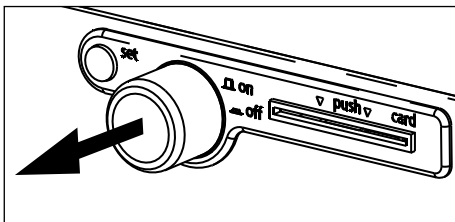

Fig. 16 Switching on incubator
- ▶ Switching on: press the main switch so that it comes out of the appliance (Fig. 16).
2. Switch on appliance. To do this, press the push-turn control on the operating panel so that it comes out of the appliance (see Fig. 16 on page 26).